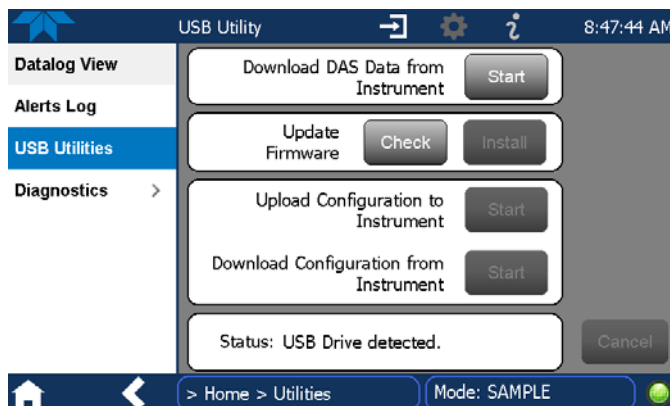

Figure 2-41. DAS Data Download
2. Insert a flash drive into a front panel USB port and wait for the Status field to indicate that the drive has been detected and available buttons are enabled (Figure 2-41).